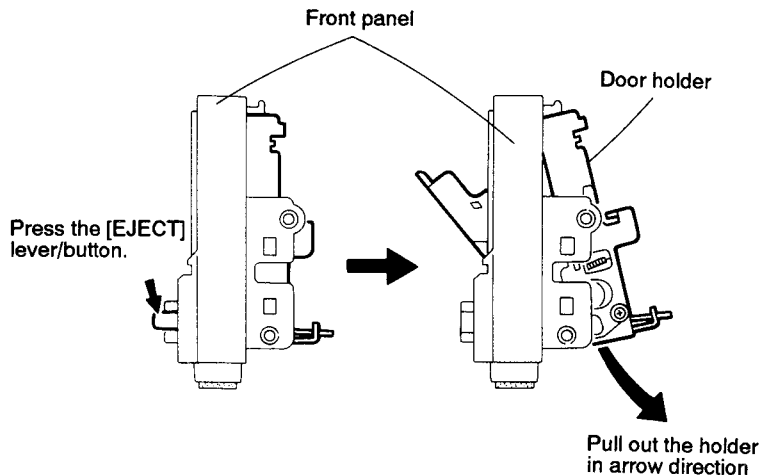

Fig. 5-16
2. Open the door by pressing the [EJECT] button, and pull out the door holder in the arrow direction (See Fig. 5-16).